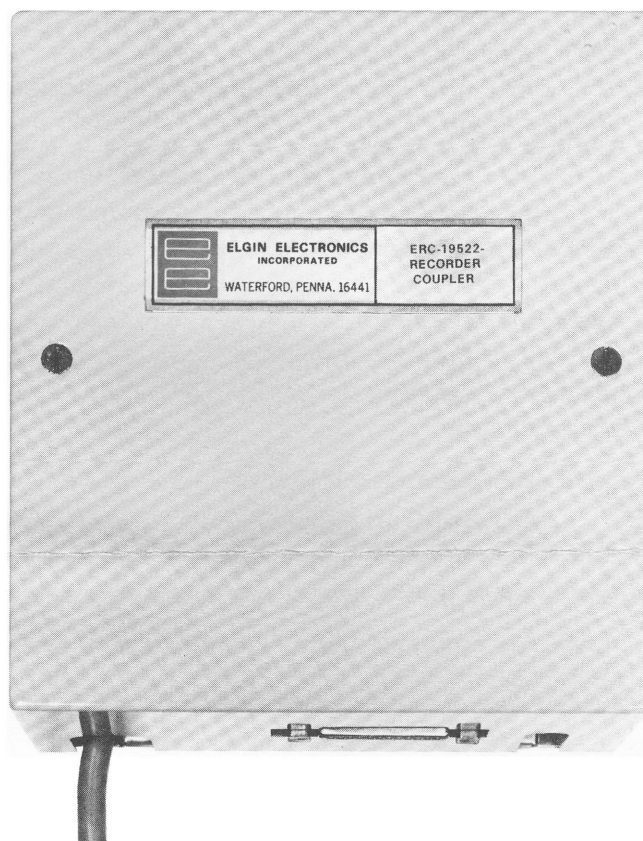

Fig. 1 —ERC-19522 Recorder Coupler
1.03 The ERC-19522-1 or -2 recorder coupler (Fig. 1):